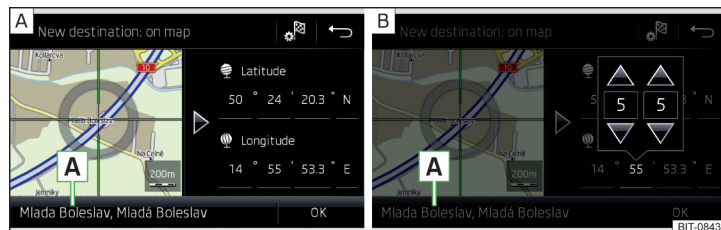

Fig. 173 Enter destination: via the map point / using the GPS coordinates
- › By sliding the screen move the desired destination into the cross-hair » Fig. 173 - **A**.
- › Tap in the values of the GPS coordinates one at a time and adjust » Fig. 173 - **B**.
If information is available about the point entered in the navigation data, then these will be displayed instead of the GPS coordinates (e.g. address **A** » Fig. 173).